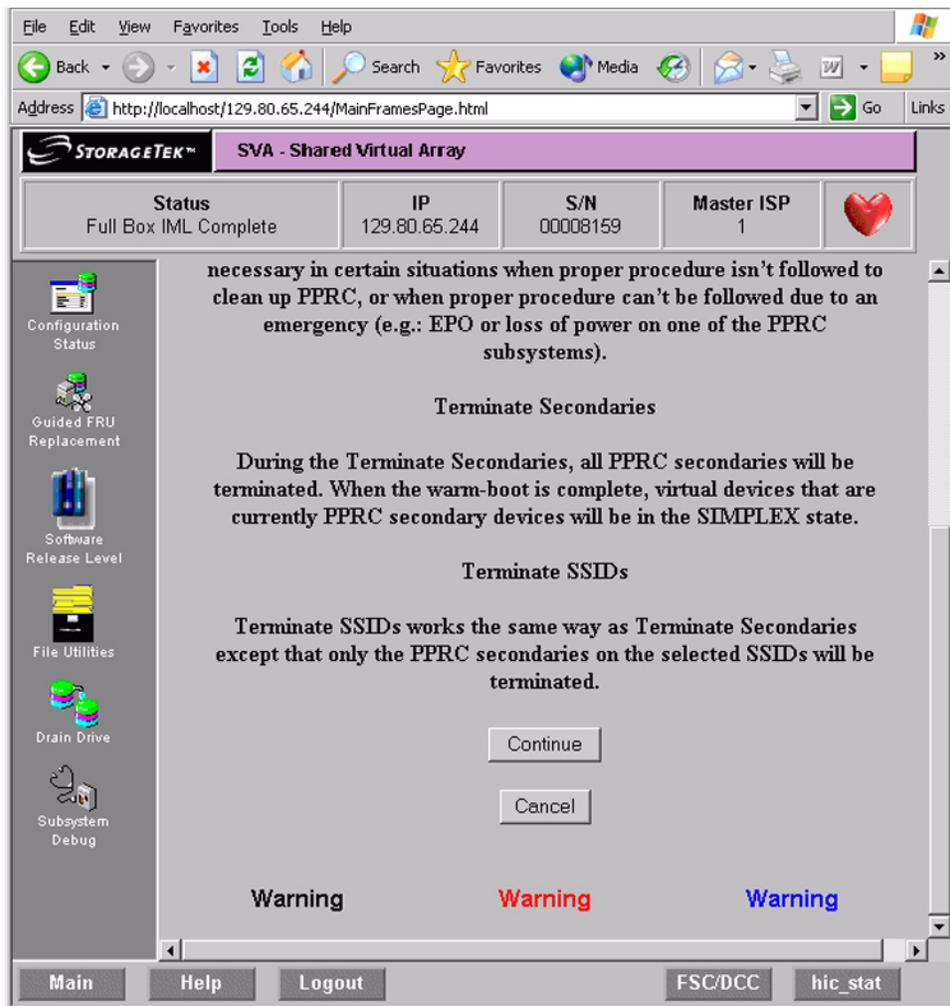

Figure 3 Terminate PPRC Warning (lower half)
- The following warning screen appears. At the bottom of this warning screen, click the **Continue** button (see Figure 3 on page 6).